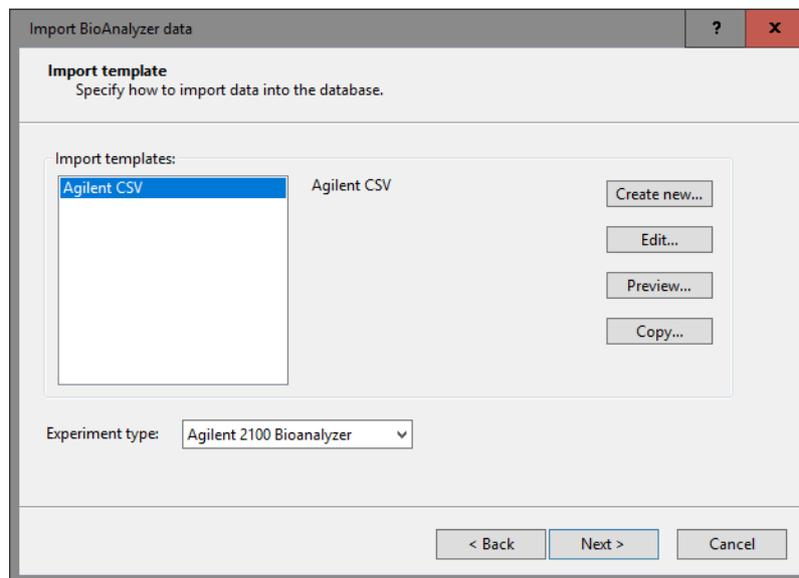

Figure 11: The *Import template Bioanalyzer data* wizard page.
12. Make sure the **Agilent CSV** import template is highlighted and the **Agilent 2100 Bioanalyzer** experiment is selected in the *Import template Bioanalyzer data* wizard page (see Figure 11). Press <**Next**>.
38. Make sure the **Agilent CSV** import template is highlighted and the **Agilent 2100 Bioanalyzer** experiment is selected in the **Import template Bioanalyzer data** wizard page (see Figure 11). Press **<Next>**.